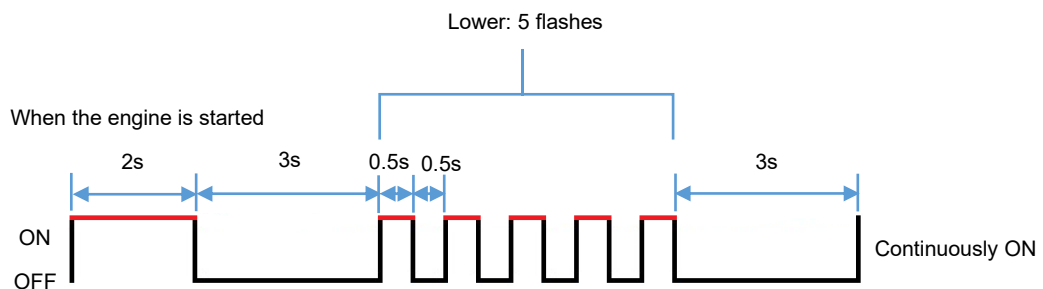

Figure 24: Accelerator Sensor Failure
- If an accelerator sensor failure is detected when the engine is started, the failure indicator light will flash in a pattern of five (equal flashes) as shown in (**Figure 24**)